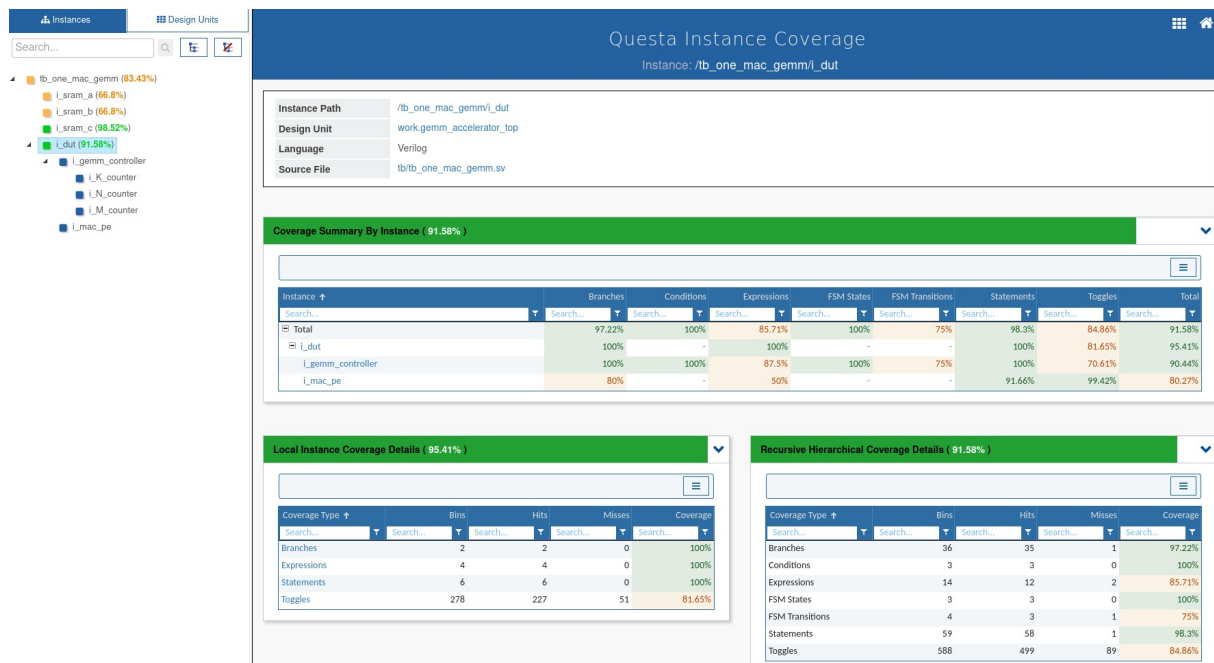

Figure 4: Example of coverage report
- This will open an HTML view where you can view the test/verification coverage for the instances in your design. See Fig. 4